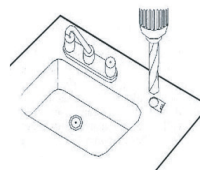

FIGURE A-4
2. If you drill marble, granite ceramic, laminate or sheet metal sink, first you should use 5 mm drilling bit and then 12 mm drilling bit, respectively. The drill must be operated at low speed and without impact. If the counter is covered with tile-coated cast concrete, it must be drilled with a diamond bit. (Figure A- 4)